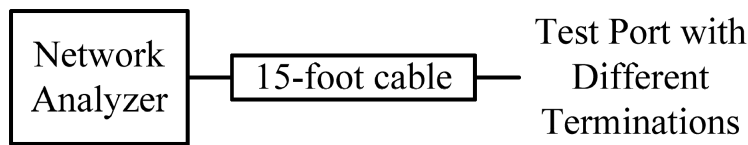

Figure 3: Block Diagram for this experiment
2. In the procedure below, we will be connecting a long cable to the VNA as shown in Figure 3. This cable will distort our measurements significantly so the effects of our calibration should be especially clear.